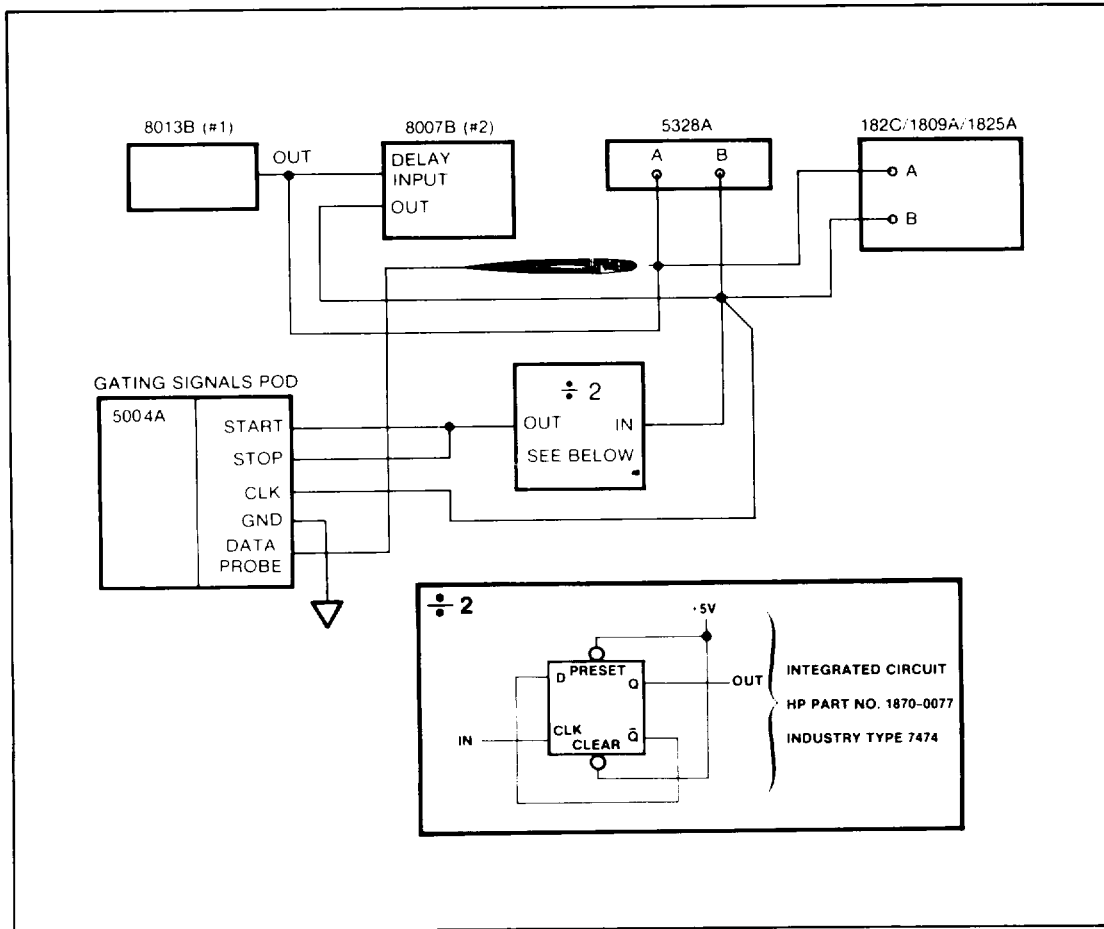

Figure 4-4. Data Probe Setup Time Performance Test
- 4-11. Connect the equipment as shown in Figure 4-4. Equipment front panel settings:
4-13. With test equipment connected as in *Figure 4-4*, and settings as in "SETUP TIME PERFORMANCE TEST" proceed as follows: